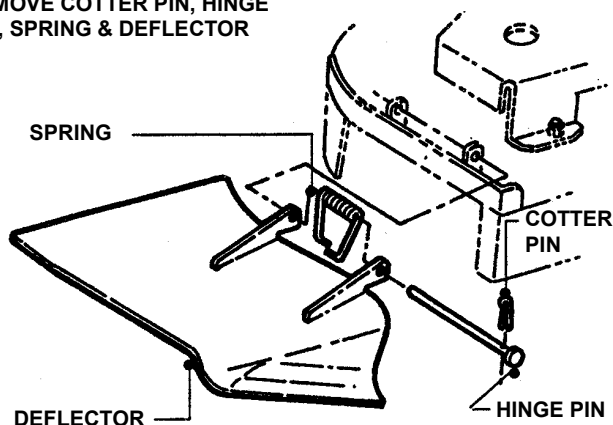

FIGURE 1.2
- C.** Remove deflector and store it, along with the other parts, for later use. See Figure 1.2.